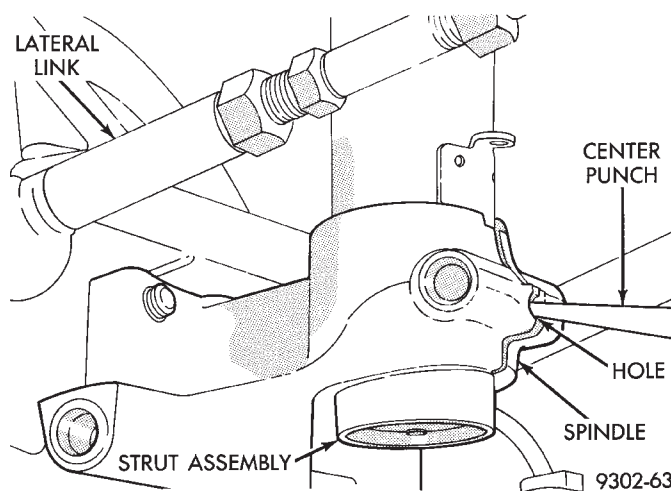

Fig. 11 Center Punch Installed In Spindle
(9) Insert a center punch into the hole on the spindle (Fig. 11). Center punch must be tapped into spindle until jammed into hole. This will spread spindle casting allowing it to be removed from strut assembly.